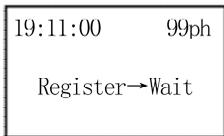

Fig. 20 Manual registration interface
- 3) **Manual registration:** Press Menu, enter main menu after entering the correct password, select "2.Registration Setting". Its difference from the Registration key on panel is that, the latter enables automatic discovery and registration of online extensions, while the Registration Setting is for manual registration, you may select the extension address number to be registered with "▲" or "▼", press OK to register the corresponding extension or cancel the registration by pressing OK again, as shown in Fig. 20.